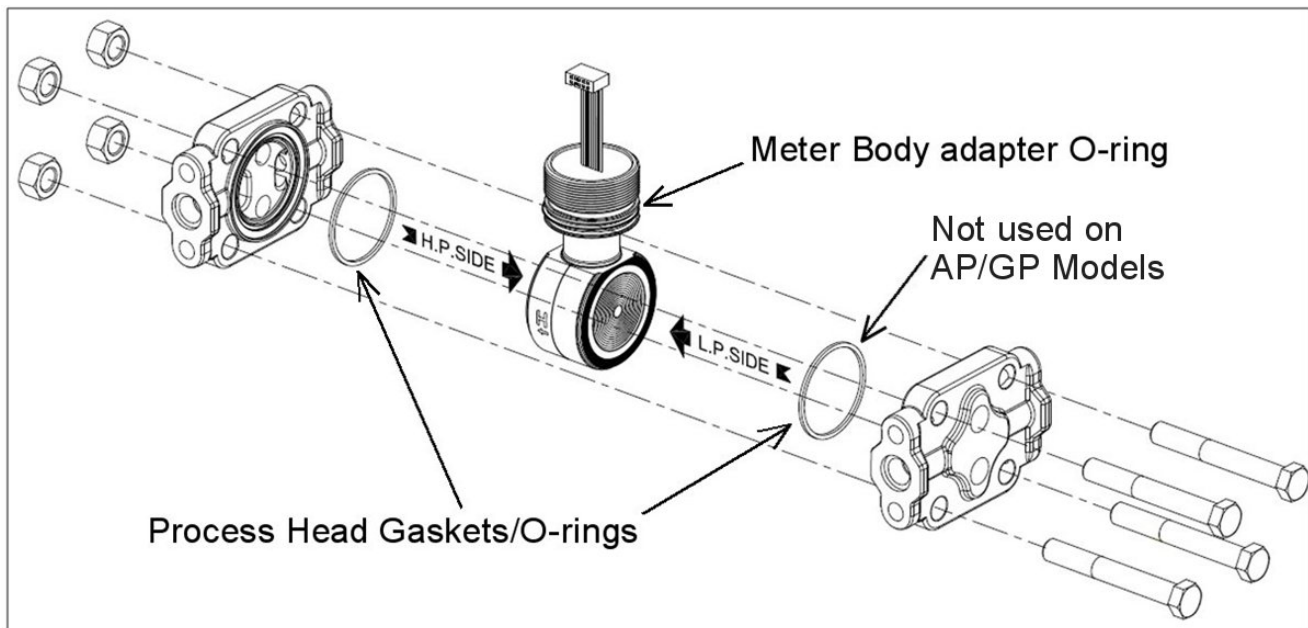

**Figure 26 – ST 700 Standard Transmitter - Hardware Location to Remove the Meter Assembly**
8. Refer to Figure 26. Use a 2mm hex wrench to completely loosen the set screw on the outside of the housing to permit rotating the meter body.